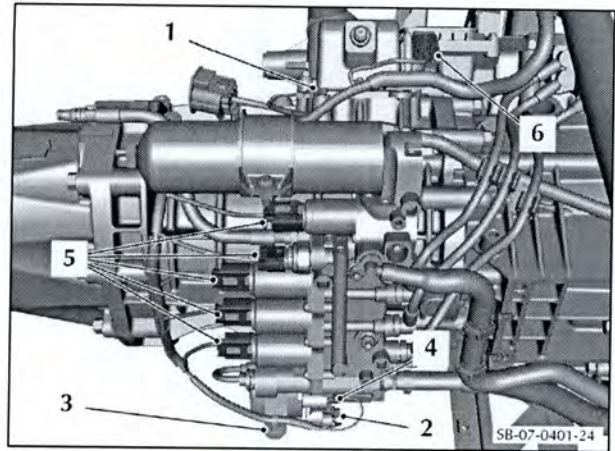

Figure 48
93. Connect the electrical connector (6) to the control module (refer to Figure 48).
94. Connect the five electrical connectors (5) to the valve block.
95. Connect the electrical connector (4) to the ASM pump.
96. Install the clip (3) that attaches the electrical harness.